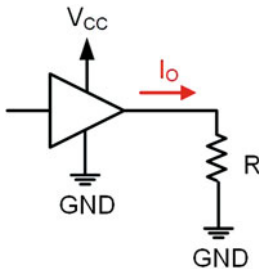

Fig. 3.40
- 3.4.3** For the pull-down driver configuration shown in Fig. 3.40, what is the output current (I_o) if $V_{CC} = +5\text{v}$ and $R = 50 \Omega$?
- 3.4.4** For the pull-down driver configuration shown in Fig. 3.40, what is the output current (I_o) if $V_{CC} = +5\text{v}$ and $R = 100 \Omega$?
- 3.4.5** For the pull-down driver configuration shown in Fig. 3.40, what is the output current (I_o) if $V_{CC} = +5\text{v}$ and $R = 1\text{k}\Omega$?
- 3.4.6** For the pull-down driver configuration shown in Fig. 3.40, what is the output current (I_o) if $V_{CC} = +3.4\text{v}$ and $R = 50 \Omega$?
- 3.4.7** For the pull-down driver configuration shown in Fig. 3.40, what is the output current (I_o) if $V_{CC} = +3.4\text{v}$ and $R = 100 \Omega$?
- 3.4.8** For the pull-down driver configuration shown in Fig. 3.40, what is the output current (I_o) if $V_{CC} = +3.4\text{v}$ and $R = 1\text{k}\Omega$?
- 3.4.9** For the pull-down driver configuration shown in Fig. 3.40, if $V_{CC} = +5\text{v}$, $R = 75 \Omega$, and $I_{O-MAX} = 50 \text{ mA}$, is the maximum output current specification violated?
- 3.4.10** For the pull-down driver configuration shown in Fig. 3.40, if $V_{CC} = +5\text{v}$, $R = 150 \Omega$, and $I_{O-MAX} = 50 \text{ mA}$, is the maximum output current specification violated?
- 3.4.11** For the pull-down driver configuration shown in Fig. 3.40, if $V_{CC} = +5\text{v}$, $R = 500 \Omega$, and $I_{O-MAX} = 50 \text{ mA}$, is the maximum output current specification violated?
- 3.4.12** For the pull-down driver configuration shown in Fig. 3.40, if $V_{CC} = +3.4\text{v}$, $R = 75 \Omega$, and $I_{O-MAX} = 25 \text{ mA}$, is the maximum output current specification violated?
- 3.4.13** For the pull-down driver configuration shown in Fig. 3.40, if $V_{CC} = +3.4\text{v}$, $R = 150 \Omega$, and $I_{O-MAX} = 25 \text{ mA}$, is the maximum output current specification violated?
- 3.4.14** For the pull-down driver configuration shown in Fig. 3.40, if $V_{CC} = +3.4\text{v}$, $R = 500 \Omega$, and $I_{O-MAX} = 25 \text{ mA}$, is the maximum output current specification violated?
- 3.4.15** For the pull-down driver configuration shown in Fig. 3.40 with $V_{CC} = +5\text{v}$, calculate the value of the pull-down resistor (R) in order to ensure that the output current does not exceed 20 mA.
- 3.4.16** For the pull-down driver configuration shown in Fig. 3.40 with $V_{CC} = +5\text{v}$, calculate the value of the pull-down resistor (R) in order to ensure that the output current does not exceed 25 mA.
- 3.4.17** For the pull-down driver configuration shown in Fig. 3.40 with $V_{CC} = +5\text{v}$, calculate the value of the pull-down resistor (R) in order to ensure that the output current does not exceed 50 mA.
- 3.4.18** For the pull-down driver configuration shown in Fig. 3.40 with $V_{CC} = +3.4\text{v}$, calculate the value of the pull-down resistor (R) in order to ensure that the output current does not exceed 20 mA.
- 3.4.19** For the pull-down driver configuration shown in Fig. 3.40 with $V_{CC} = +3.4\text{v}$, calculate the value of the pull-down resistor (R) in order to ensure that the output current does not exceed 25 mA.
- 3.4.20** For the pull-down driver configuration shown in Fig. 3.40 with $V_{CC} = +3.4\text{v}$, calculate the value of the pull-down resistor (R) in order to ensure that the output current does not exceed 50 mA.